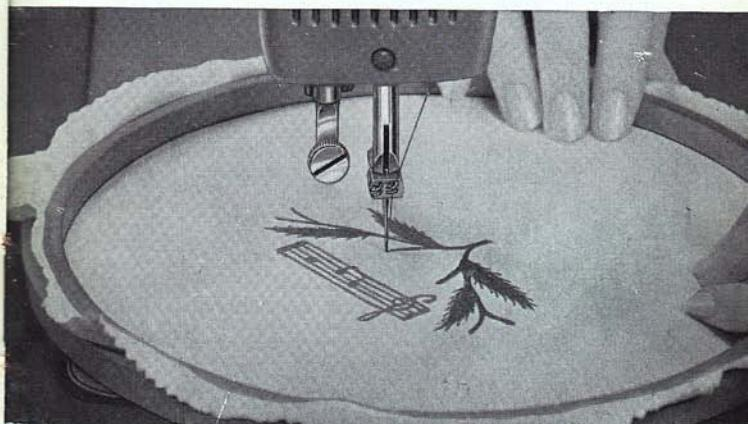

Fig. 27
- c) Place hoop with fabric under the needle (Fig. 27), so that fabric rests flat on bed of machine.